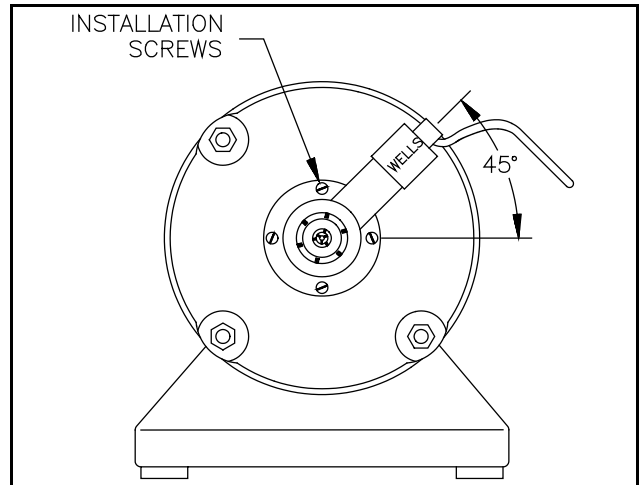

Figure 10. End view
6.1 Confirm that the handle is in the shipping position. Fasten the Quick Chuck to the adapter using the four installation screws. See Figure 10.